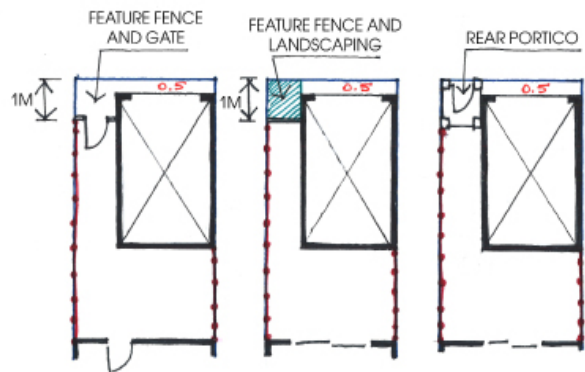

Figure 9: Laneway fencing options.
- Terrace lots with laneway access must follow one of the layout option shown on the Figure 9 sketch below.